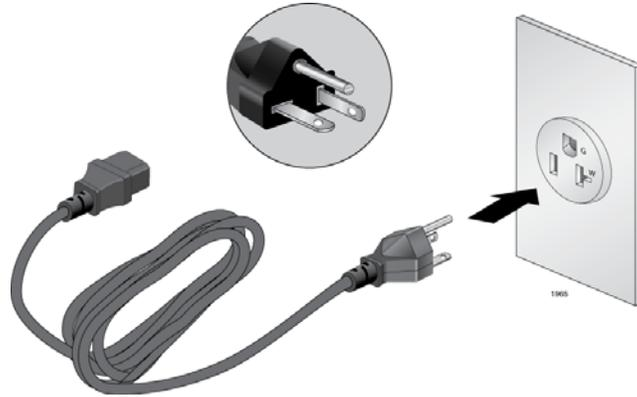

Figure 31. 100 - 125 VAC 125 V NEMA 5-20 Plug and Receptacle
- The power cords provided with the AT-SBxPWRSYS1, AT-SBxPWRSYS2, and AT-SBxPWRPOE1 Power Supplies for 100-125 VAC installations have 20 Amp, 125 V NEMA 5-20P plugs. The plugs are only compatible with NEMA 5-20R receptacles. See Figure 31 on page 91.